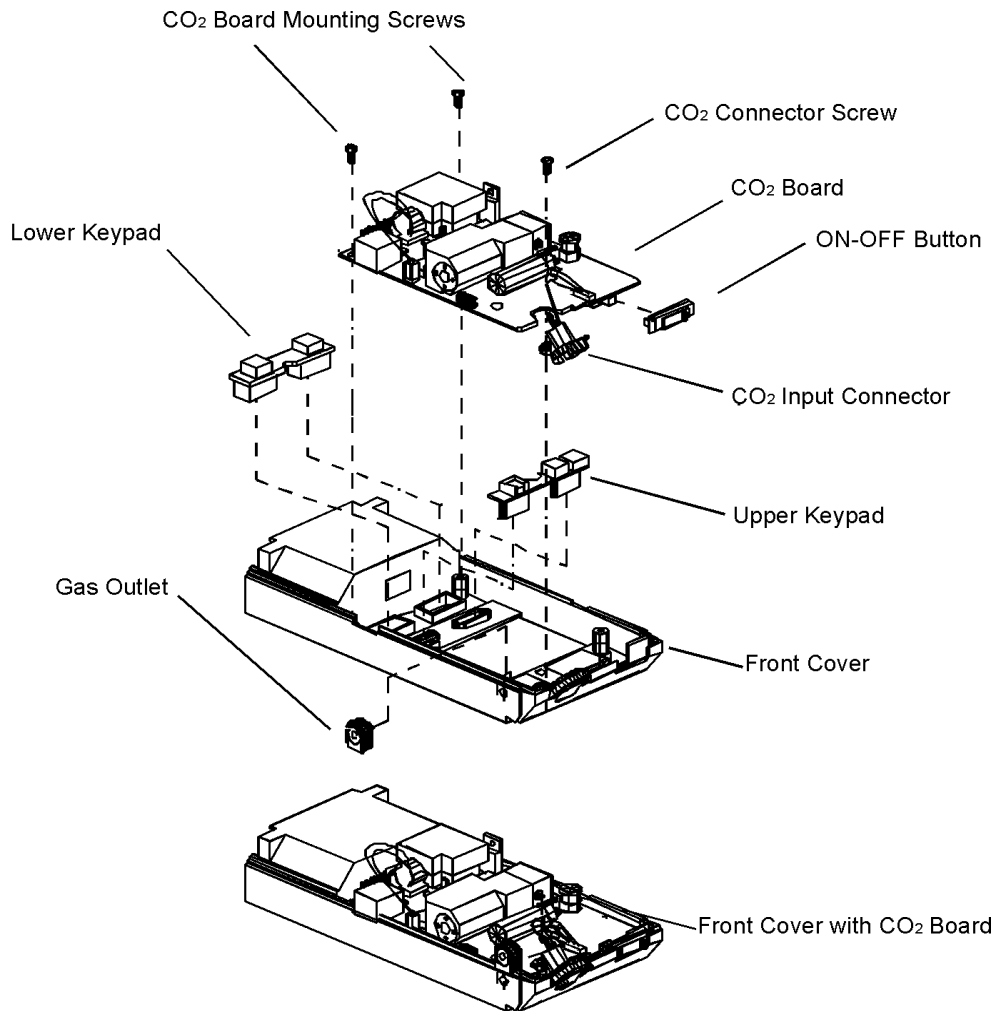

Figure 7-4: Replacing CO₂ Board and Housing Components
Refer to Figure 7-4: Replacing CO₂ Board and Housing Components
1. Remove the CO₂ Board as described in Figure 7-4: Replacing CO₂ Board and Housing Components.